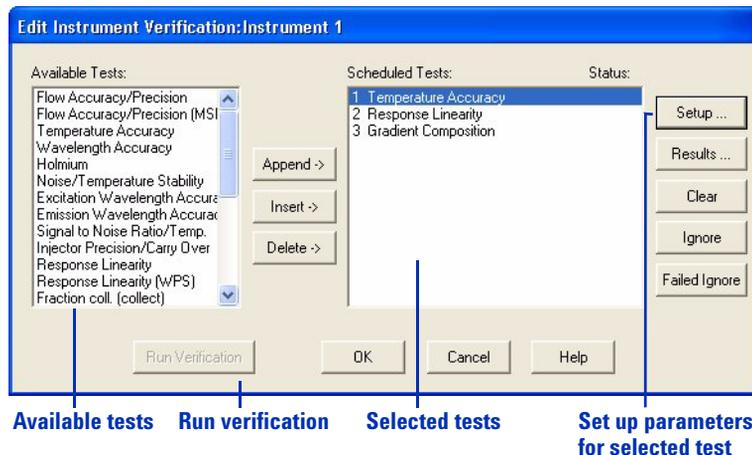

Figure 57 The Edit Instrument Verification dialog box lets you determine the specific tests and their order.
- Select **File > New** or **File > Open** to display the dialog box shown in Figure 57.
When you set up a new instrument verification, open an existing instrument verification, or edit the current instrument verification, the Edit Instrument Verification dialog box shown in Figure 57 is displayed.
The **Setup** button in **Figure 57** is very important. When you click a scheduled test and click **Setup**, the dialog box that is specific to that test is displayed. Within the dialog box, you have the opportunity to: